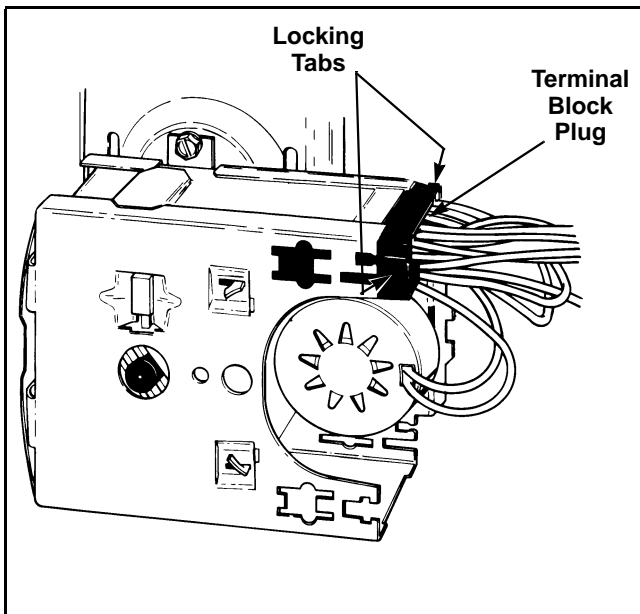

Figure 11
- Disengage wire harness terminal block plug(s) from timer by pressing in on movable locking tabs (located on each side of terminal block plug) and pulling away from timer. Refer to *Figure 11*.